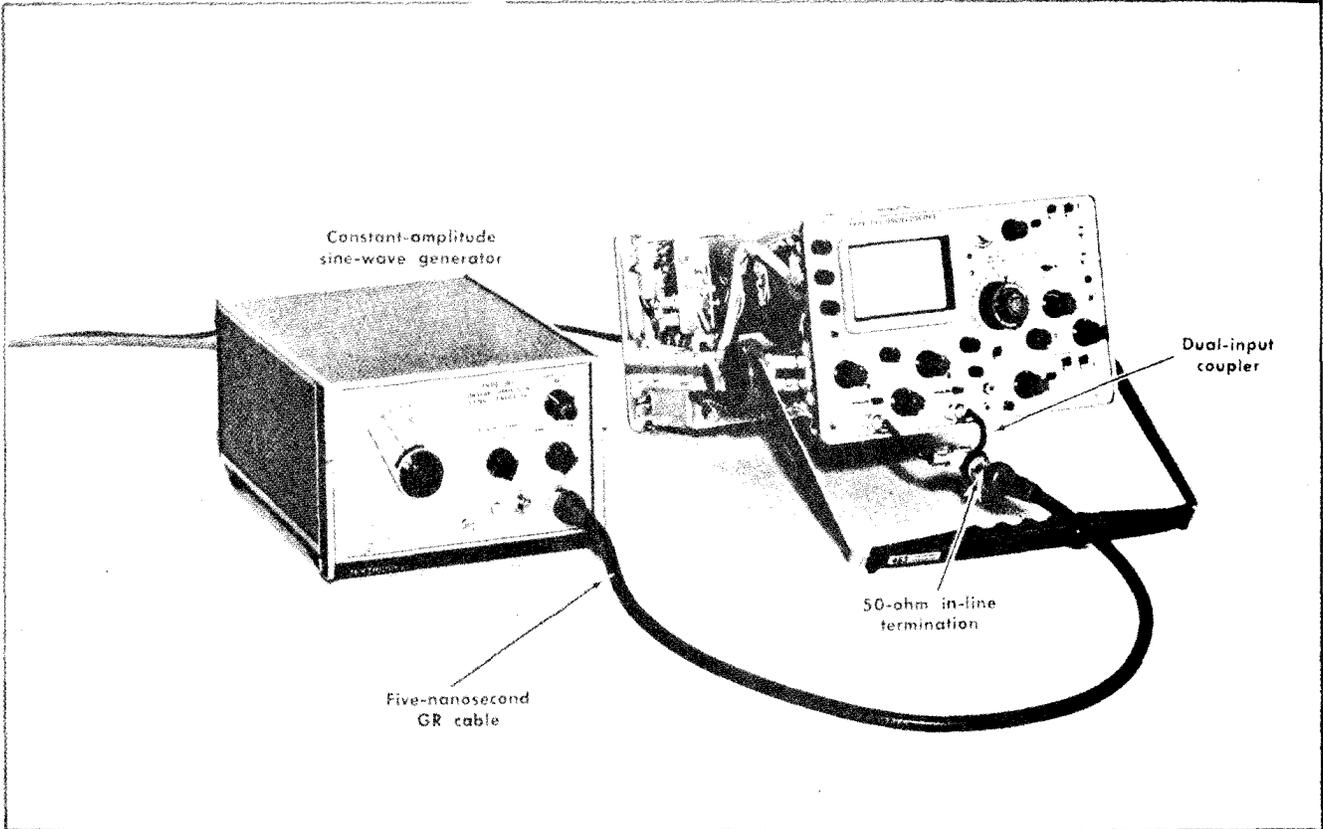

Fig. 6-25. Test equipment setup for steps 28 and 29.
- a. Test equipment setup is shown in Fig. 6-25.